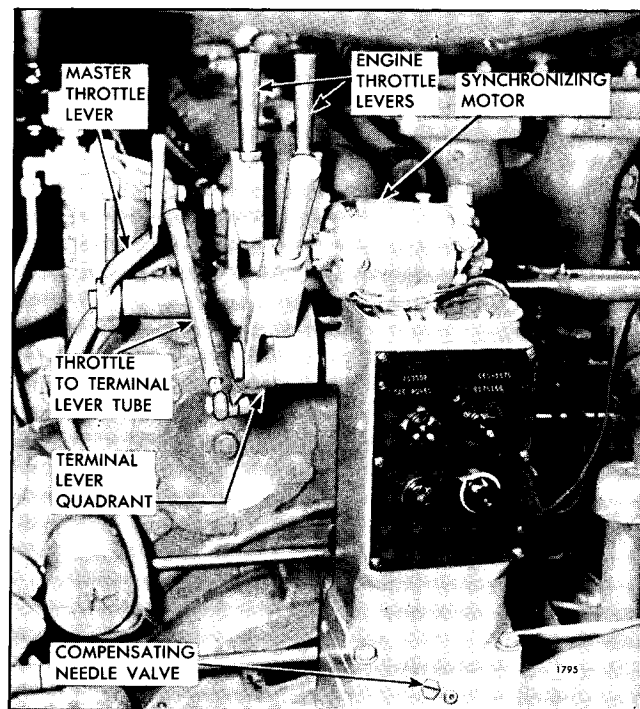

Fig. 1 - UG8 Governor and Throttle Linkage
1. Remove throttle lever to terminal lever tube, Fig. 1.